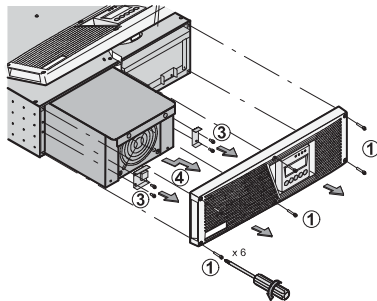

Figure 34. Removing the Power Module
1. Remove the UPS front cover (six screws). See Figure 34.